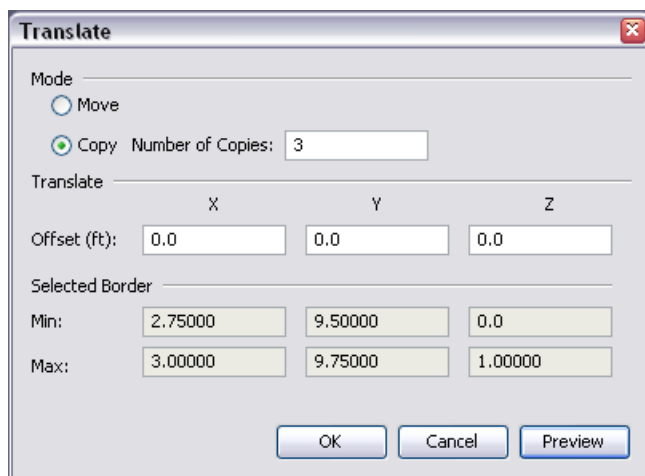

Figure 11:1. The translate dialog
3. This will show the Translate dialog, Figure 11:1.